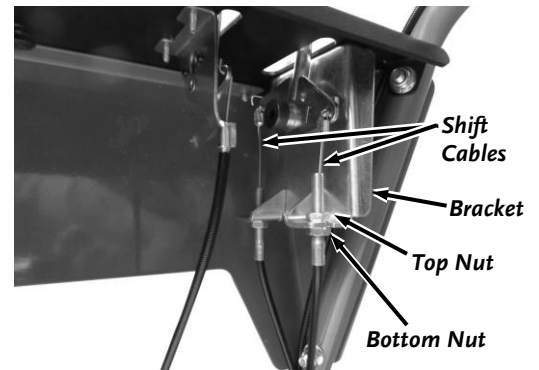

Figure 50
1. Locate the Shift Cable Adjustment Nuts on the Shift Lever end of the cable (**Figure 50**).